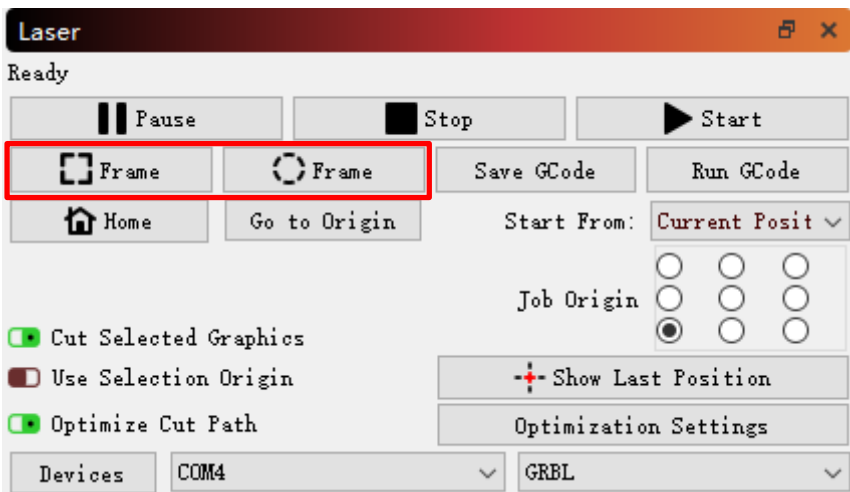

Figure 9.3
9.3. Click the "Border" button (Operation 9.3), and the machine will start to patrol the edge according to the picture size you set to observe whether the current origin position and picture size are appropriate; If it is not suitable, move the laser head again and reset the origin until it is suitable. (Figure 9.3)